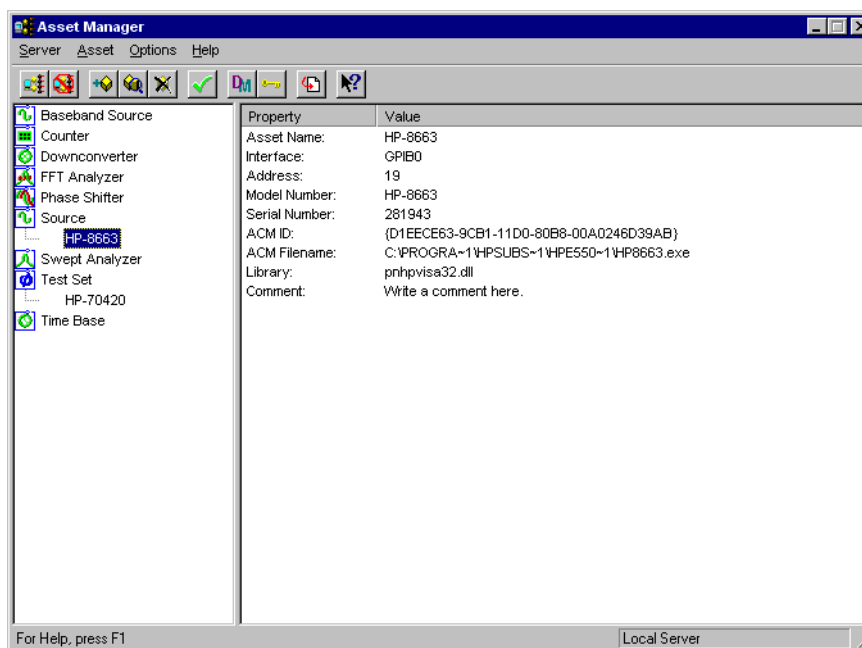

Figure 5-8 Asset Manager Showing Added Source
- 13** You have just used the Asset Manager to configure a source. See Figure 5-8. Use the same process to add other software controlled assets to the phase noise measurement software.